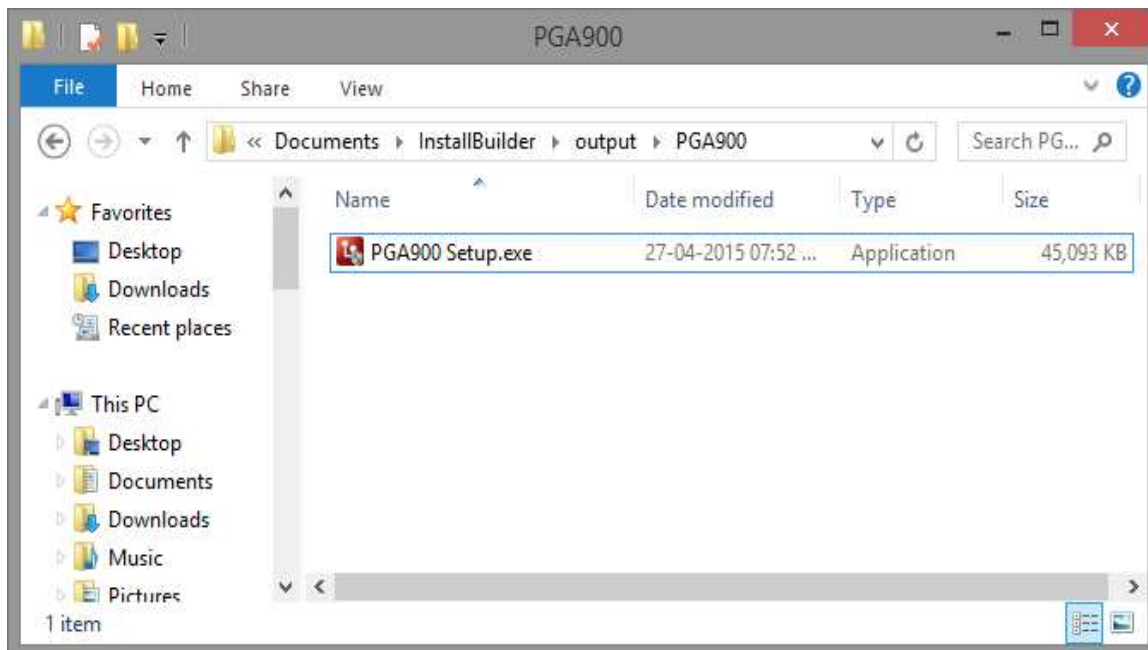

Figure 1-1. Setup.exe from Volume Folder
1. Double click on the Setup.exe from the Volume folder as shown in Figure 1-1.